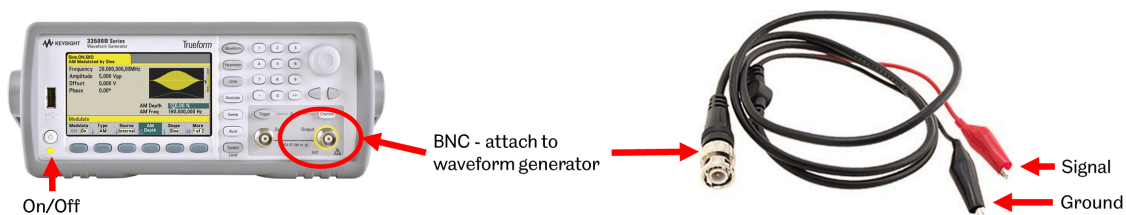

Figure 35: Waveform generator and BNC to croc-clip cable.
- Plug in a BNC to croc-clip cable to the “Output” connector at the bottom right of the front panel. This type of cable is shown in Figure 35. You need to collect the BNC cable from the cable racks in the lab.